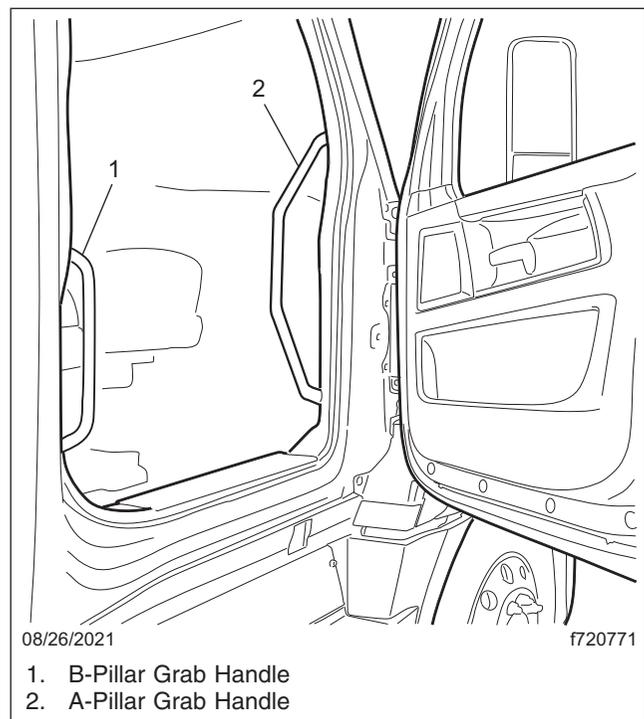

Fig. 2.5, Passenger-Side Cab Access
2. Facing the cab, grasp the B-pillar and A-pillar grab handles with your hands. See Fig. 2.5.
1. Grasp the A-pillar grab handle with both hands, and place your right foot on the top step. See Fig. 2.5.